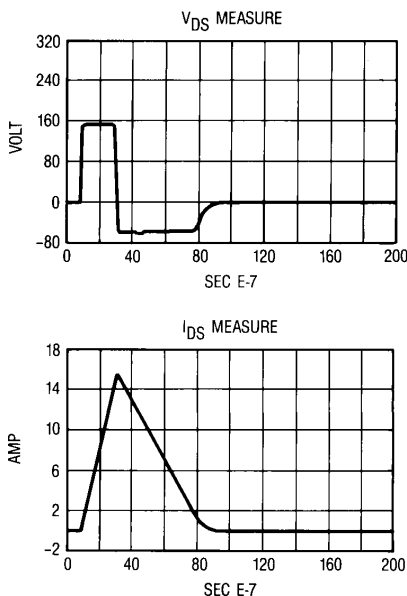
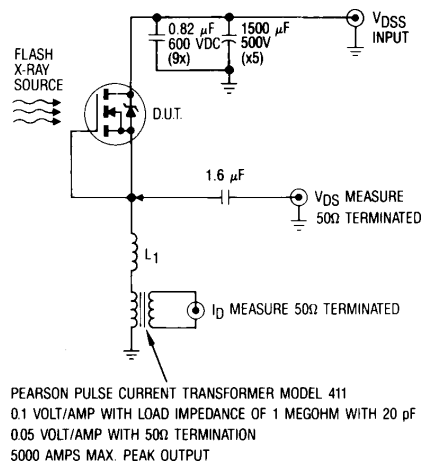

Figure 7. – Typical Transient Response of Rad Hard HEXFET During 1×10^{12} Rad (Si)/Sec Exposure
Figure 9. – High Dose Rate (Gamma Dot) Test Circuit
High dose rate testing may be done on a special request basis, using a dose rate up to 1×10^{12} Rads (Si)/Sec. Photocurrent and transient voltage waveforms are shown in figure 7, and the recommended test circuit to be used is shown in figure 9.
- ⑧ This test is performed using a flash x-ray source operated in the e-beam mode (energy ~ 2.5 MeV), 30 nsec pulse. (figure 9)
- ⑨ Study sponsored by NASA. Evaluation performed at Brookhaven National Labs.
- ⑩ All Pre-Radiation and Post-Radiation test conditions are **identical** to facilitate direct comparison for circuit applications.